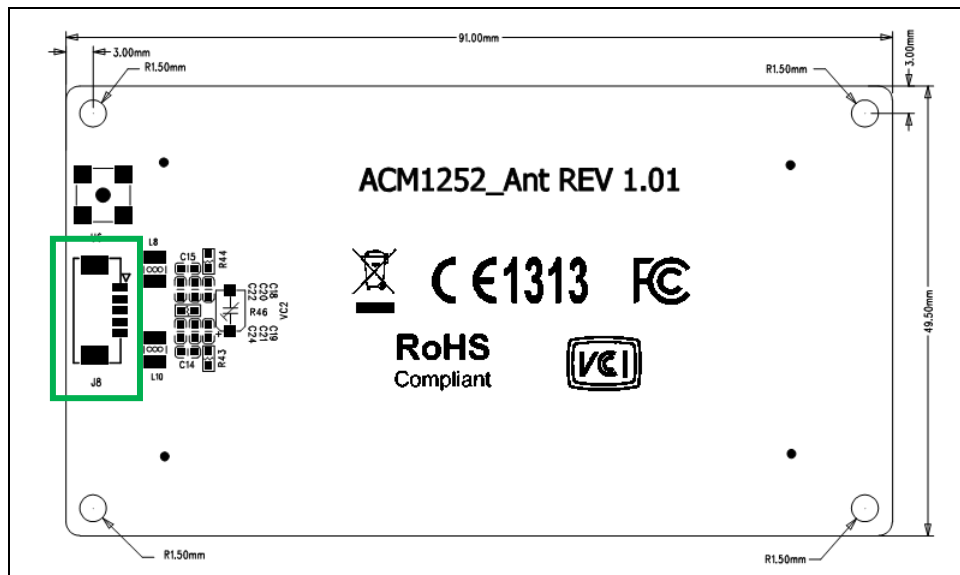

Figure 2: ACM1252U-Y Antenna Board
- Figure 2 : ACM1252U-Y Antenna Board 5**
2. Connect antenna cable to **J8** of the ACM1252U-Y antenna board (see **Figure 2**).